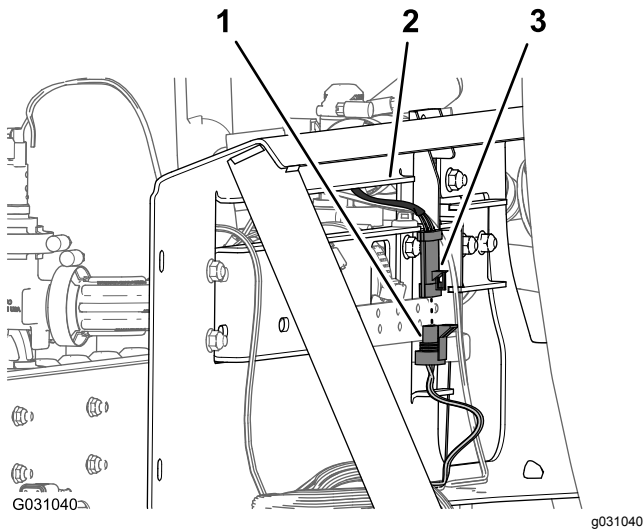

Figure 110
6. Connect the 3-pin connector for the harness of the agitation valve into the 3-socket connector of the 203 cm (80 inches) wire harness branch labeled **Agitation Valve** (Figure 110).